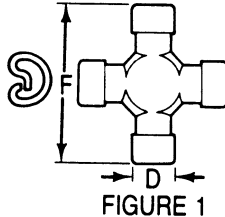

FIGURE 1
1. Measure dimension "F" and write it down. Figure 1.
2. Measure dimension "D" Figure 1 and write it down. Figure 1.